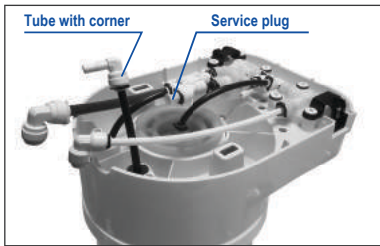

Fig. 3
- Wait till all air has left the tube with the corner and the water flows (service mode for air removal, see fig. 3) and close the input tap.